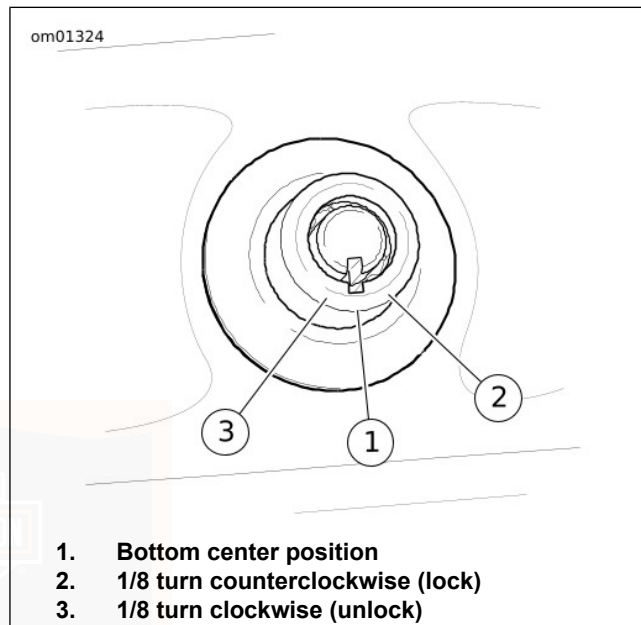

Figure 15. Trunk Lock
1. See Figure 15. To unlock trunk, insert key into barrel lock and turn 1/8 turn clockwise. Return key to bottom center position and remove.